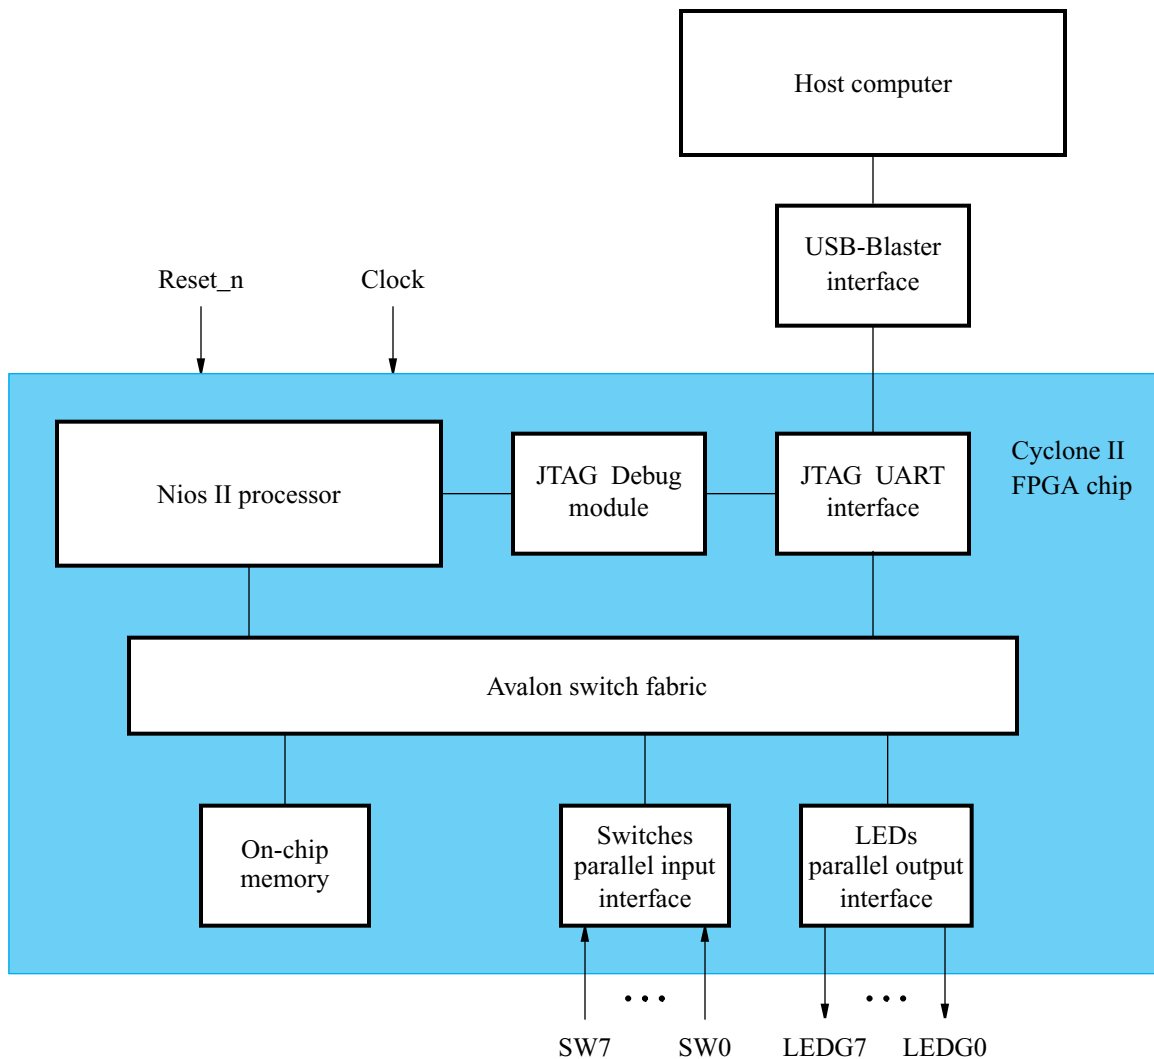
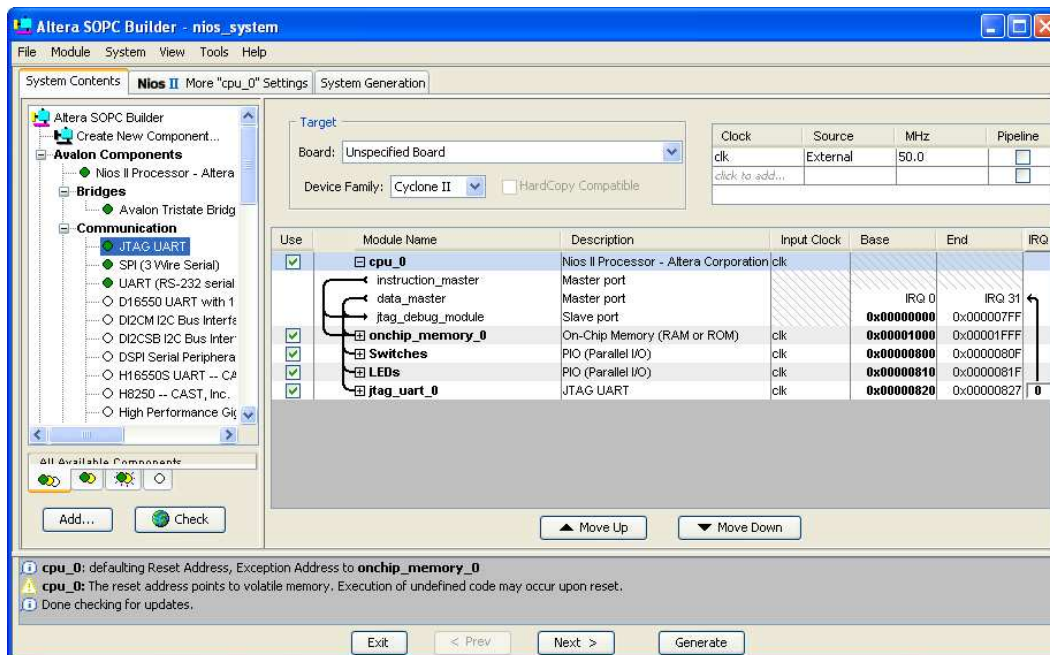

Figure 2. A simple example of a Nios II system.
Figure 13. The complete system.
Our example system is given in Figure 2. The system realizes a trivial task. Eight toggle switches on the DE2 board, $SW7 - 0$, are used to turn on or off the eight green LEDs, $LEDG7 - 0$. The switches are connected to the Nios II system by means of a parallel I/O interface configured to act as an input port. The LEDs are driven by the signals from another parallel I/O interface configured to act as an output port. To achieve the desired operation, the eight-bit pattern corresponding to the state of the switches has to be sent to the output port to activate the LEDs. This will be done by having the Nios II processor execute a program stored in the on-chip memory. Continuous operation is required, such that as the switches are toggled the lights change accordingly.
We will use the SOPC Builder to design the hardware depicted in Figure 2. Next, we will assign the Cyclone II pins to realize the connections between the parallel interfaces and the switches and LEDs which act as I/O devices. Then, we will configure the FPGA to implement the designed system. Finally, we will use the software tool called the *Nios II Debug Client* to assemble, download and execute a Nios II program that performs the desired task.
The SOPC Builder is a tool used in conjunction with the Quartus II CAD software. It allows the user to easily create a system based on the Nios II processor, by simply selecting the desired functional units and specifying their parameters. To implement the system in Figure 2, we have to instantiate the following functional units:
10. The complete system is depicted in Figure 13. Note that the SOPC Builder automatically chooses names for the various components. The names are not necessarily descriptive enough to be easily associated with the target design, but they can be changed. In Figure 2, we use the names **Switches** and **LEDs** for the parallel input and output interfaces, respectively. These names can be used in the implemented system. Right-click on the **pio_0** name and then select **Rename**. Change the name to **Switches**. Similarly, change **pio_1** to **LEDs**.